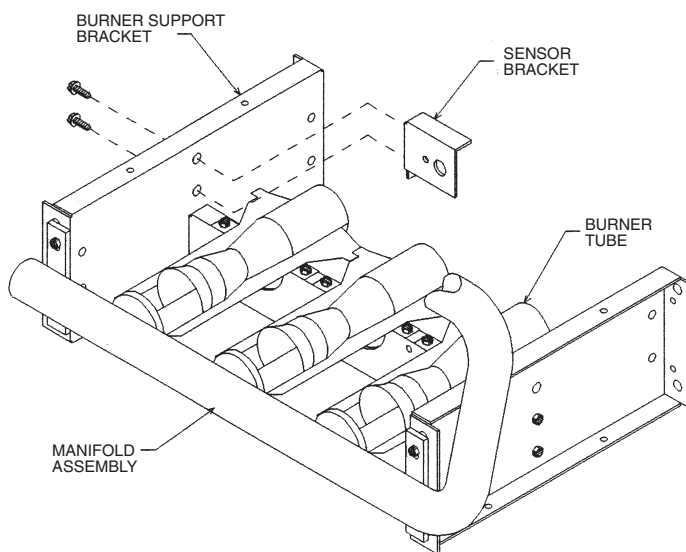

FIGURE 2
3. The sensor bracket mounts to the burner as shown in Figure 2. Position the bracket on the appropriate side of the burner support and align the two holes. NOTE: The flat flange on the bracket must be AWAY FROM THE BURNERS.
4. Insert the screws through the holes in the burner bracket and tighten with a ratchet wrench and 1/4 socket. See Figure 2.